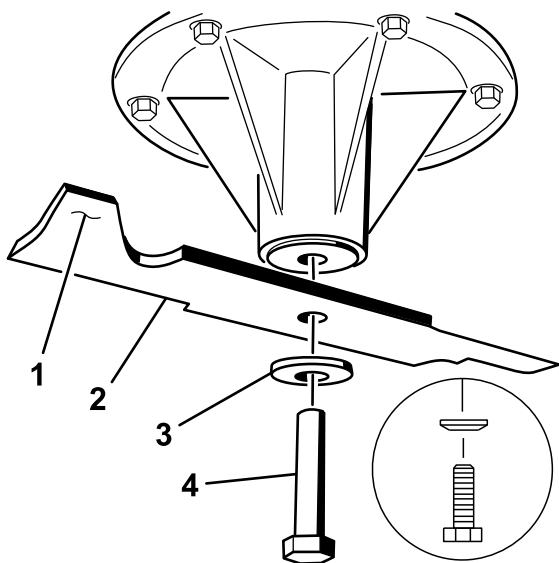

Figure 92
2. Install the blade onto the spindle shaft (Figure 92).
3. Install the curved washer and blade bolt (Figure 92).
Note: The curved washer cone must be installed toward the bolt head (Figure 92).